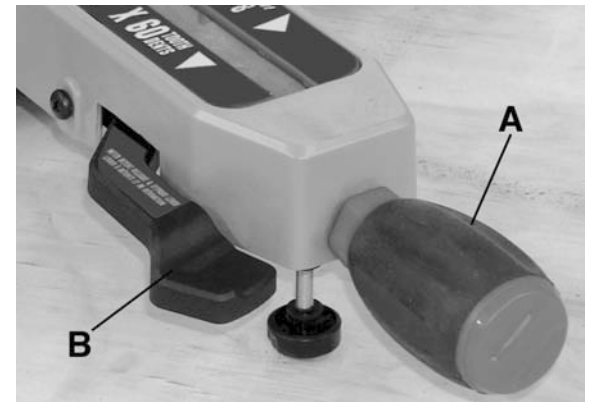

Figure 4
The saw is supplied almost fully assembled, you should assemble the miter lock handle (A) Fig.4 first. Attach the miter handle by screwing it into position as shown. This handle is used to lock or unlock the table at the desired miter angle. **Once the miter angle is set, use the miter lock handle to lock the table. WARNING! Before making any cut, make sure the miter lock handle is fully tightened.**
There are 9 positive stops at 0°, 15°, 22.5°, 30° and 45° to the left and right. While the miter detent lever (B) Fig.4 is pressed and released between positive stops, the table will stop at the next positive stop. If the miter detent lever (B) Fig.4 is pressed and held in place, the table will continue to rotate and will bypass the positive stops. Once the desired angle is obtained, use the miter lock handle to lock the table.